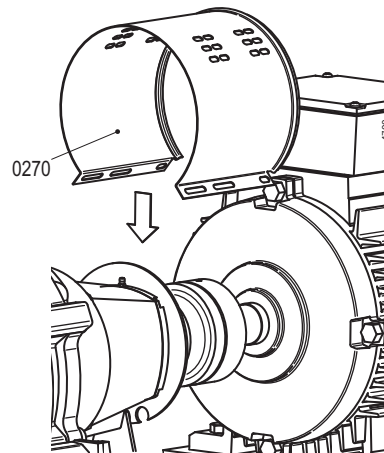

Figure 10: Fitting the jacket at motor side.
- 2 Remove both jackets (0270). See figure 10.